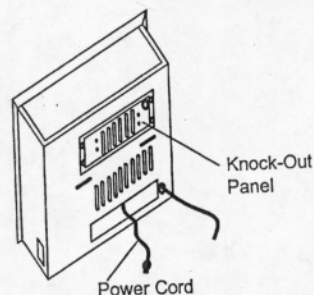

Figure5-Removing Stove Knock-out Panel
7. From back of heater remove the Knock-out center panel with two brackets at the four sides with a Phillips head screwdriver. (See Figure 5).